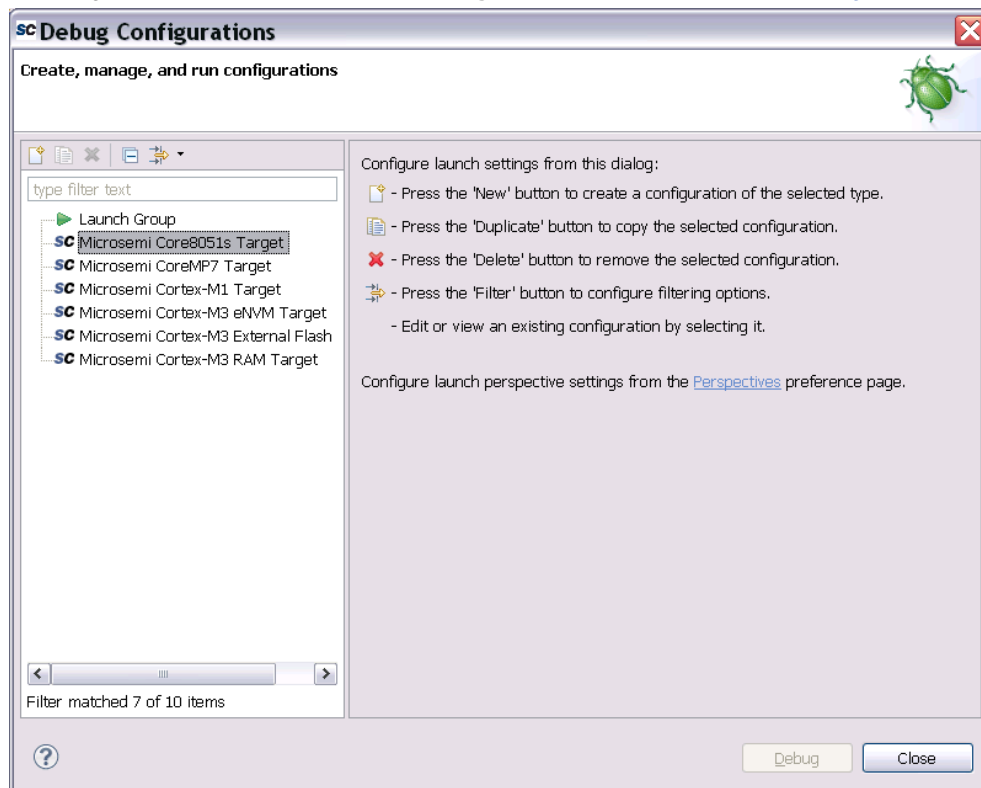

Figure 48 Create Debug Configuration
- Right-click **Microsemi Core8051s Target** and select **New**, as shown in Figure 48.